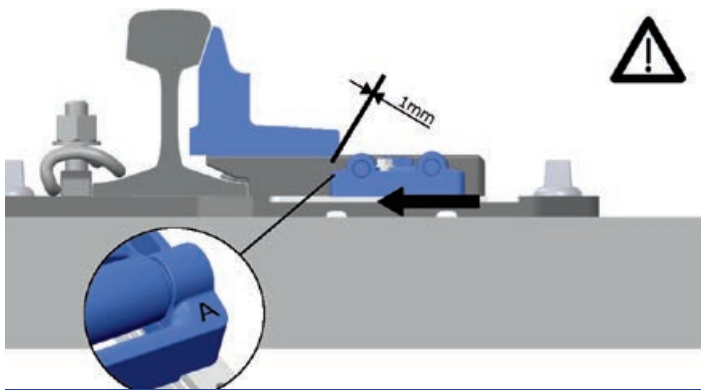
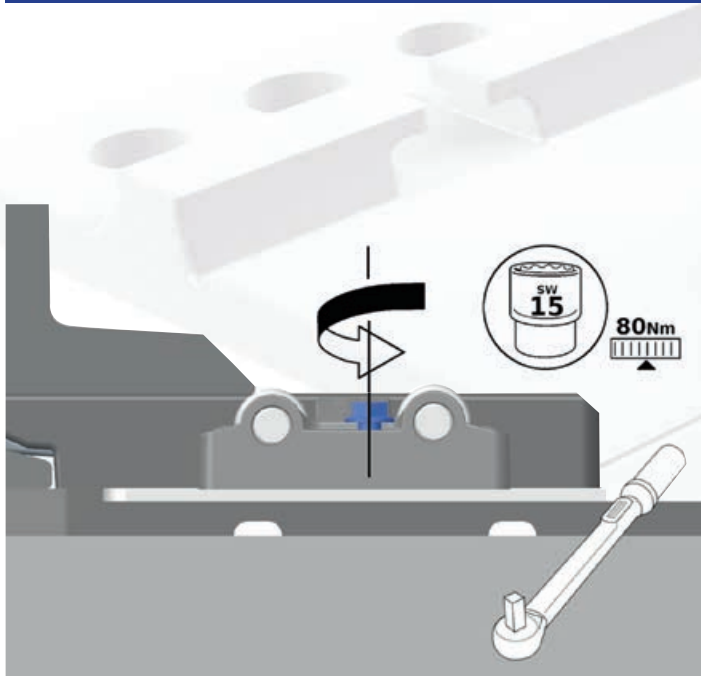

Fig. 9: Aligment of roller frame
Fig. 10: Fastening of roller frame
10) The roller frame will be mounted, that the „A“-marked side is in direction to the rail foot and that the first roller is positioned approx. 1 mm from the edge of the switch rail foot. This can be checked with a 1 mm slip gauge. Then, the self-locking screws can be fixed at 80Nm (SW 15mm). [Torque wrench, wrench socket SW 15 mm, Slip gauge] (Fig. 9 and 10)
Therefore, the two self-locking screws of the roller frame have to be loosened (Fig. 10), the roller frame has to be removed and the shim to be placed under the roller frame. Afterwards the roller frame can be positioned, adjusted and fixed (Steps from Fig. 9 and 10).